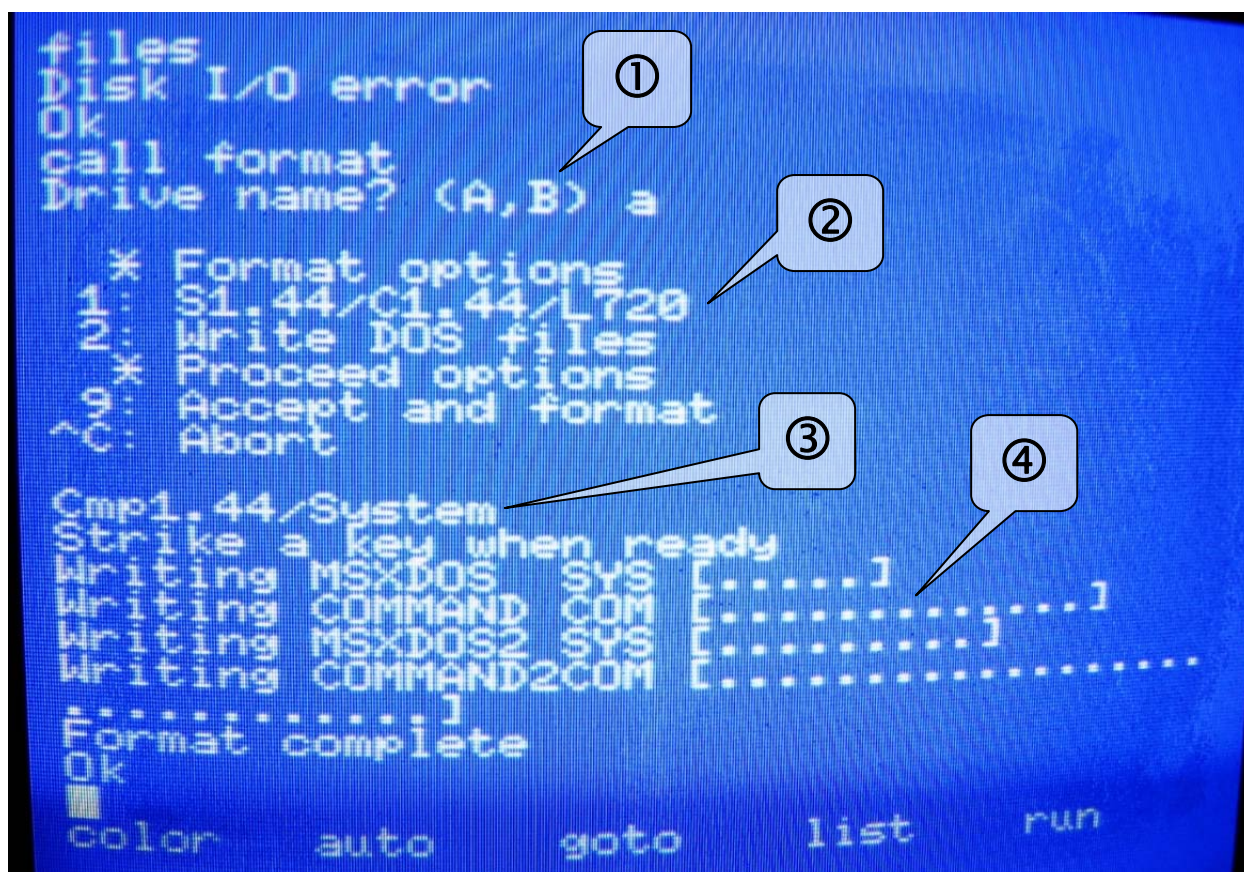

Figure 2.2. Diskette formatting dialogue
2. Format floppy disk using GR8BIT's MSX-DOS **format** command or BASIC's **call format** command. Both invoke the same formatting microcode residing in the ROM. Usage of these commands in scripts/applications is not recommended. When you invoke the ROM-embedded formatting command (fig. 2.2), you will select logical drive (and media in it) to format (1). If it will appear to be hard disk located LVOL, command will abort with message "Use GR8HDD". You will see options available (2), and dialogue string (3). Pressing respective digit key on the keyboard – "1" key to toggle format (Standard 1.44, Compatible 1.44 or Legacy720), "2" key to toggle option to write DOS files after formatting – dialogue string will be changed appropriately. You can abort the command any time until it starts formatting by pressing CTRL-STOP or CTRL-C key combination. If you select "System" option, MSX-DOS1 and MSX-DOS2 system files will be written onto the diskette. If you are not going to use media with DOS2, you will remove DOS2 files after format command completes. Note that format command will always write DOS2-type boot sector.